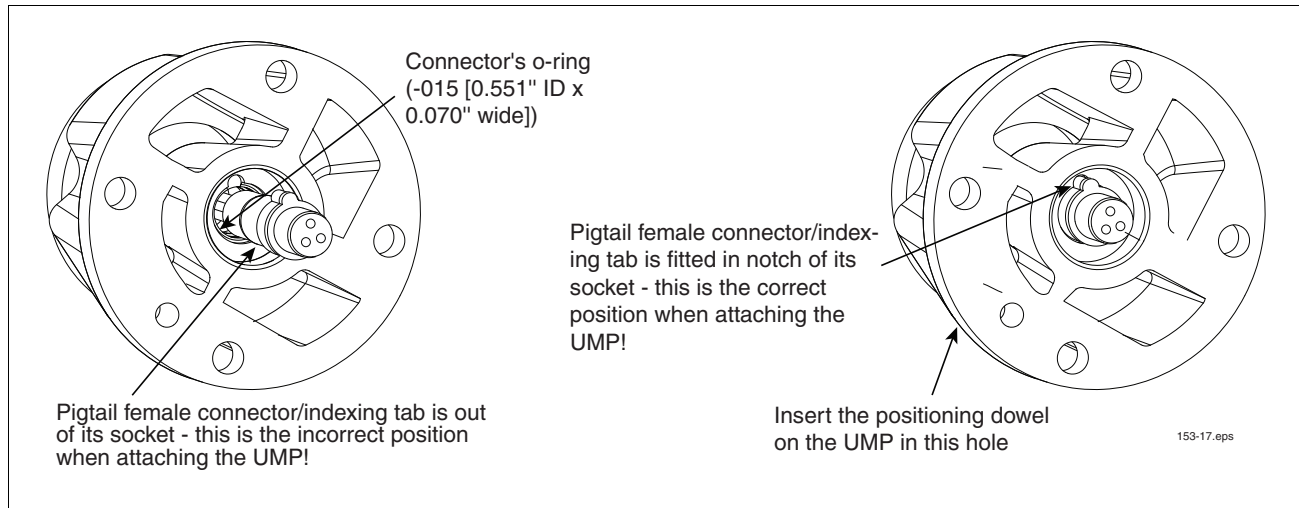

Figure 31. Verifying pigtail's female connector is seated properly
6. Pull the pigtail connector in the discharge head out far enough to see the o-ring in the sidewall of its socket (see Figure 31). Remove the connector's o-ring from the connector's socket and discard it. Get a 0.551" ID x 0.070" wide o-ring from the kit and lubricate it with petroleum jelly. Slide the new o-ring over the pigtail connector and push it in the groove in the wall of the connector's socket. Lubricate the pigtail connector body with petroleum jelly and push it back into its socket, making sure its index tab is in the socket's notch.